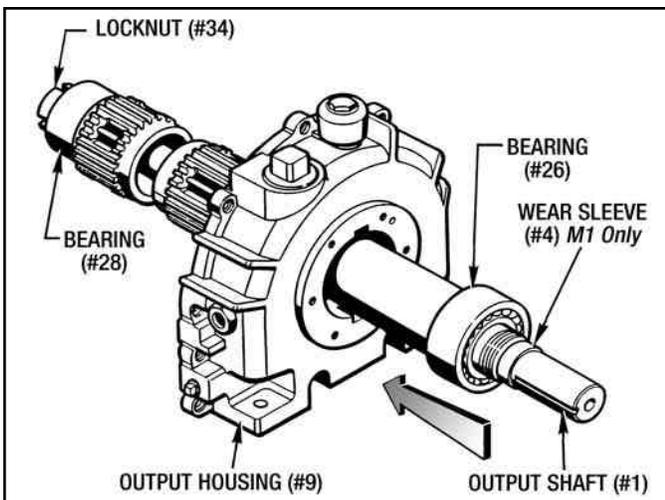

Figure 9.03 - Installing Output Shaft Into Output Housing
1. Guide the Output Shaft Sub-Assembly into the Output Housing (#9), as shown in Figure 9.03.